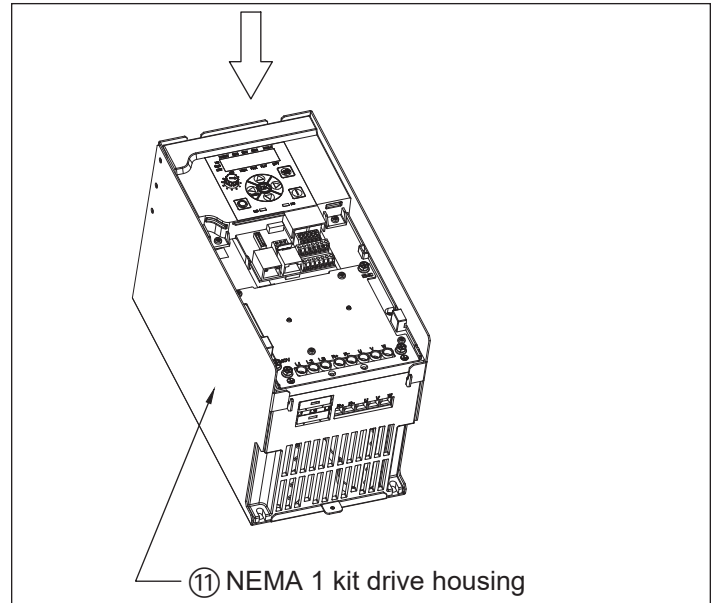

Figure 16. Inserting the drive into the NEMA 1 drive housing.
Insert the drive into the metal NEMA 1 kit drive housing ⑪ (see Figure 16).